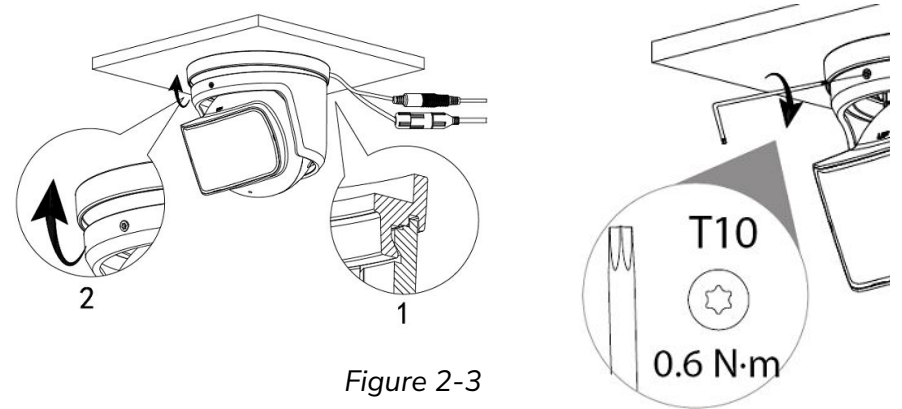

Figure 2-3
Step 3 Install and tighten down the dome cover. Loosen the Camera adjustment point (2) for proper clearance when installing the cover and ensure the cover is installed properly on the mounting base (1). See Figure 2-3.